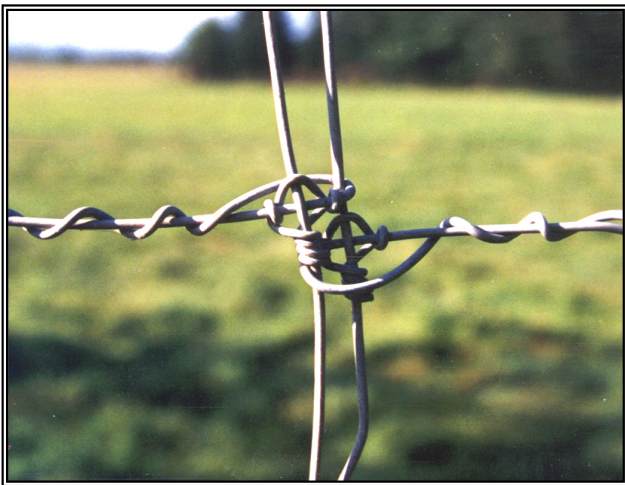

Figure 4 Splicing Woven Wire
- Join woven wire by using a wrap-splice as shown in Figure 4 below. Leave 4 to 6 inches of line wire beyond the end stay. Lay together the end stay wires of each of the two sections to be spliced, then wrap the free ends tightly around the line wire with pliers or a splicing tool.